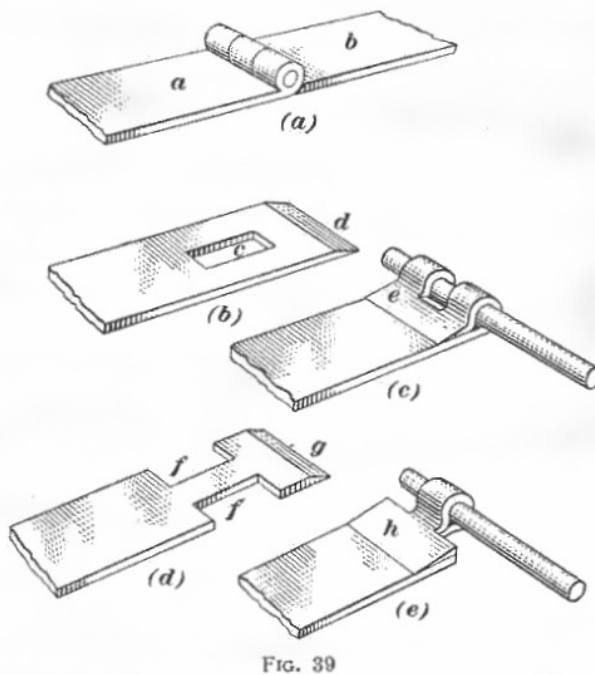
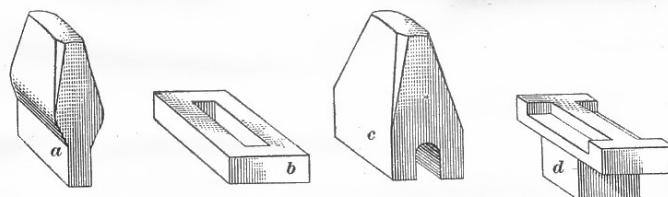

FIG. 39
FIG. 40
74. **Forging a Strap Hinge.**—In the strap hinge shown in Fig. 39 (a) the flaps *a* and *b* are made from 2" ×  $\frac{1}{4}$ " flat iron. A piece to form the flap *a* is heated at one end and a rectangular slot is punched through as shown at *c* in (b); the width of this slot is one-third the width of the bar, and the length will depend on the diameter of the pin that is to be fitted in the hinge.
a considerable amount of time and labour is saved by using special punches and dies. A set of tools of this description is illustrated in Fig. 40, the punch *a* and die *b* being used for the slot shown at *c* in Fig. 39 (b), while the sides are cut away as at *f* by means of the double punch *c* and the die *d* in Fig. 40. The punches may have holes through them to receive a wooden handle, or they may be necked on the corners for an iron rod, as preferred.